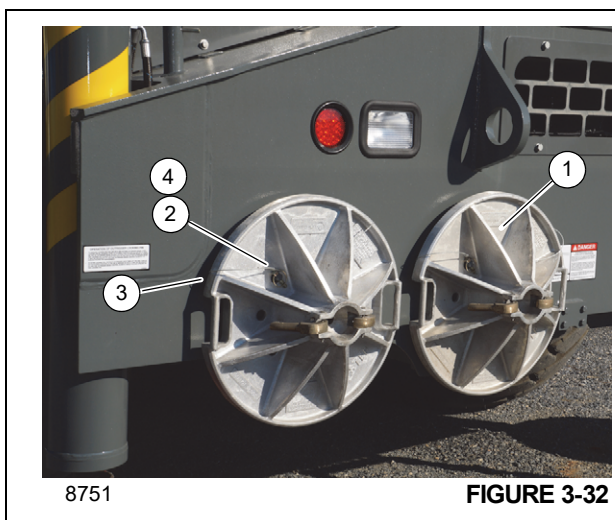

FIGURE 3-32
7. Stow outrigger pads Figure 3-32.